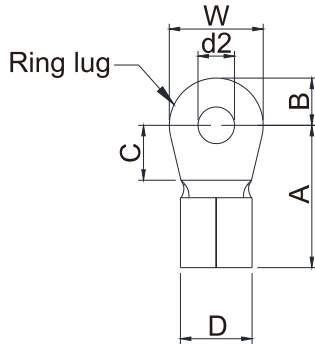
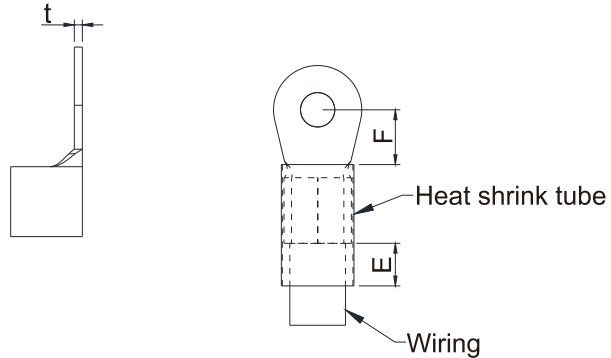

Figure 5-10
Figure 5-11
- Use the specified ring lug for main circuit terminal wiring. See figure 5-10 and figure 5-11 for ring lug specifications. For other types of wiring, use the wires that comply with the local regulations.
- After crimping the wire to the ring lug (must be UL approved), UL and CSA approved recognized component (YDPU2/8), install heat shrink tube rated at a minimum of 600V_{AC} insulation over the live part. Refer to figure 5-11 below.